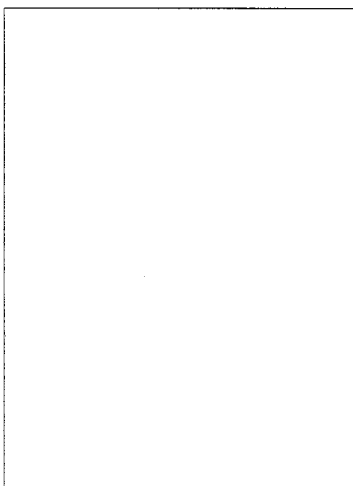

Fig. 1: SO 40 controls.
2.5 Controls (Refer to fig. 1)
2. To disconnect the transmitter (1), press the unlocking button (3) on the transmitter and remove the transmitter (1) from the microphone (2).
4.3 Setting Levels (Refer to fig. 1)